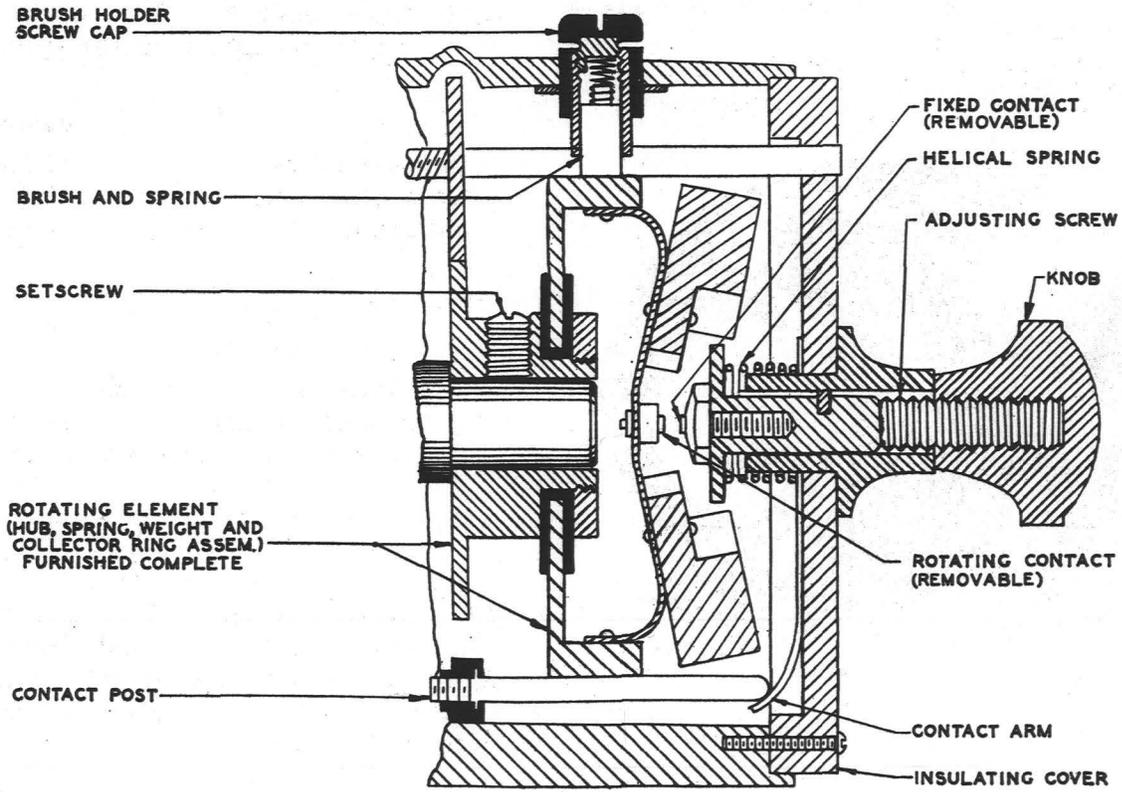

Fig. 7 - Speed Regulator Assembly — KS-5099
(3) Pack the ball races with a moderate amount of grease and assemble the various springs and washers in the end shield housings. The outer race will slide into the housing without the aid of any special tool but should have a fairly snug fit. It may be desirable to wipe the inside of the bearing chamber with a trace of grease on the end of the finger before sliding the race into place. The screws may be replaced more readily if a No. 309 tool is used. This tool is similar to one of the regular screws except that the head is removed and, therefore, it can be screwed into the bearing retainer and through the copper gasket and end shield from the inside before sliding the end shield into place. After the end shield is put into place, three of the screws may be put in and then the stud may be removed and the fourth screw put in place. See that the shaft turns freely. Push the shaft inward on the speed regulator end of the KS-5051, KS-5067, and KS-5099 machines and release it to check that the thrust spring returns the shaft to its original position. On the KS-5015 machine, push the shaft inward on the generator end.
(4) In replacing the speed regulator rotating assembly, the setscrew should register on the spot on the shaft provided for that purpose. This also applies to the interrupter ring setscrews if spots are provided for them. Before putting on the regulator insulating cover, wipe the speed regulator contacts with a dry cloth, avoiding touching the contacts with the bare fingers. Put the insulating cover on the speed regulator end in such a position that the flat contact arm on the inside will press against the contact post as shown in Fig. 7.